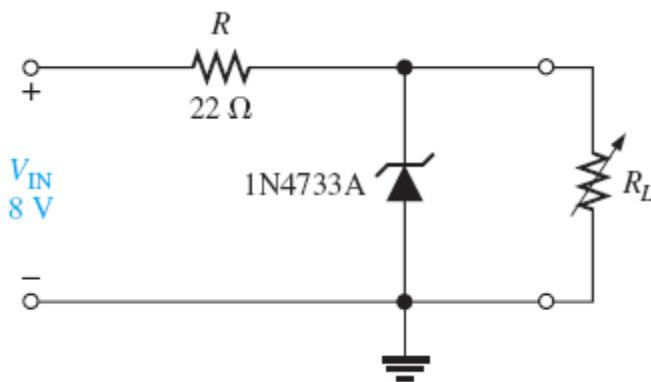

Figure 3–61
12. Analyze the circuit in Figure 3–61 for percent line regulation using an input voltage from 6 V to 12 V with no load. Refer to Chapter 2, Equation 2–14.